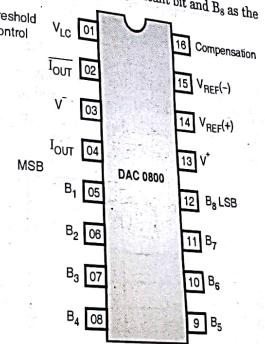
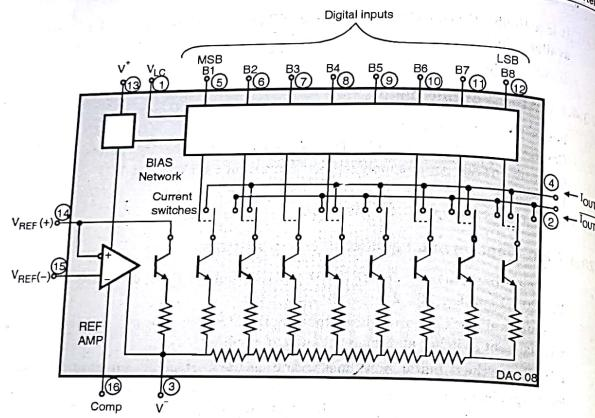

Fig. 20.4.1 : Pin diagram of DAC 0800
Fig. 20.4.2
- The pin diagram and functional block diagram of DAC 0800 are shown in Fig. 20.4.1 and Fig. 20.4.2.